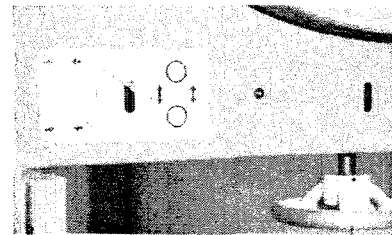

Figure 4.2.2
4.2.2 Saw Blade Tensioner (Figure 4.2.2)